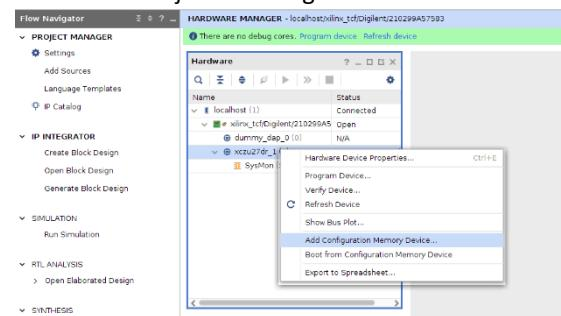

Figure 28. Add Configuration Memory Device...
3. Right-click the device “*xczu27\_dr(1)*” and “Add Configuration Memory Device...” as illustrated in Figure 28.